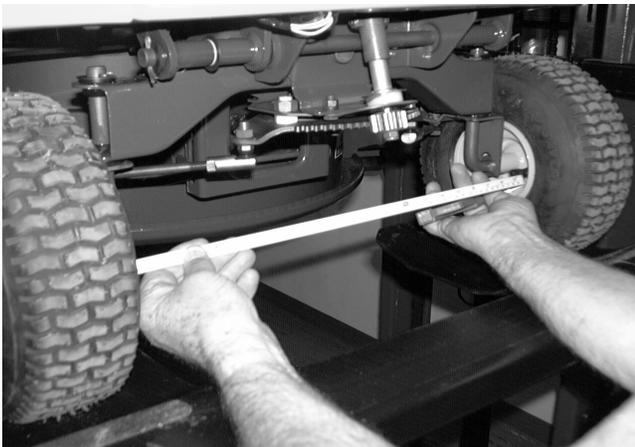

FIGURE 2.
- 4). In front of the axle, measure the distance horizontally from the inside of the left rim, to the inside of the right rim. See figure 2.